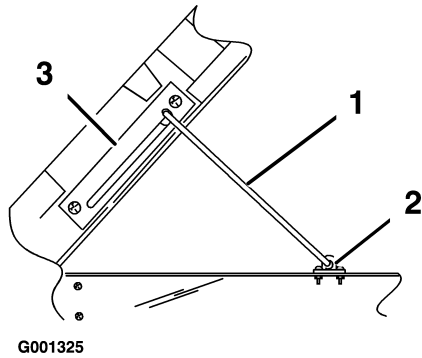

Figure 1
3. Raise the box to its full height; then lower it slightly to engage the prop rod (Figure 1).
5. Remove the screws and clip securing the prop rod to the frame rail (Figure 1). Retain the prop rod components for future use.